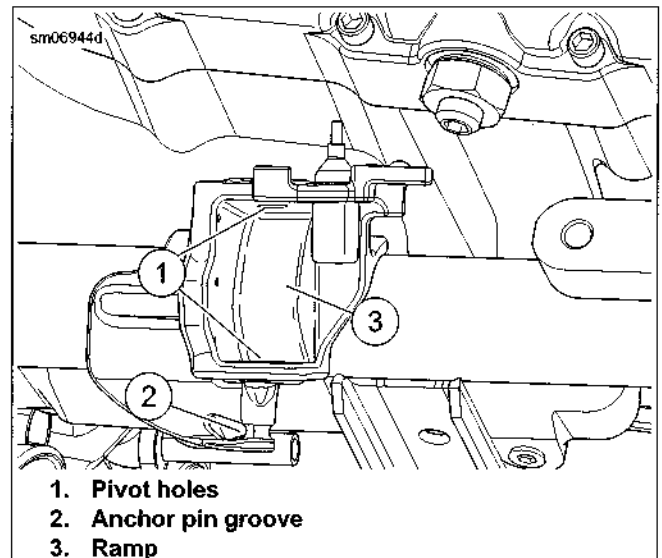

Figure 2-172. Lubrication Points
2. See Figure 2-172. Apply ANTI-SEIZE LUBRICANT to the leg pivot holes in the yoke (1), the groove of the anchor pin (2) and the OD of the clevis pin.
3. Coat the ramp (3) of the yoke with ANTI-SEIZE LUBRICANT.